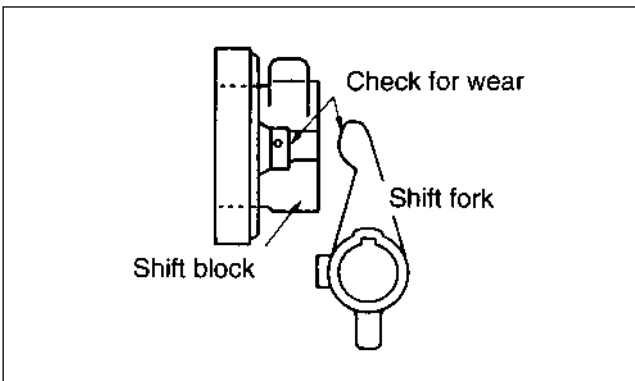

Figure 15. Shift block and Shift fork wear
- Check the surface of the shift block for wear or damage (figure 15).
- Check the surface of the shift fork for wear or damage (figure 15).